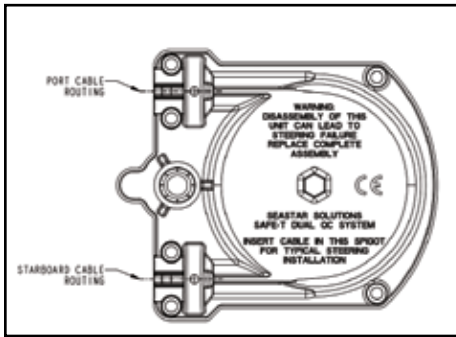

Figure 2.
**STEP 1.** Remove both pins from the helm's cable entry spigots.. **DO NOT REMOVE THE TAG FROM THE PIN.** The back of the helm is marked for typical (starboard cable routing) installation. If port cable routing is desired, use opposite side spigot (see Figure 2).